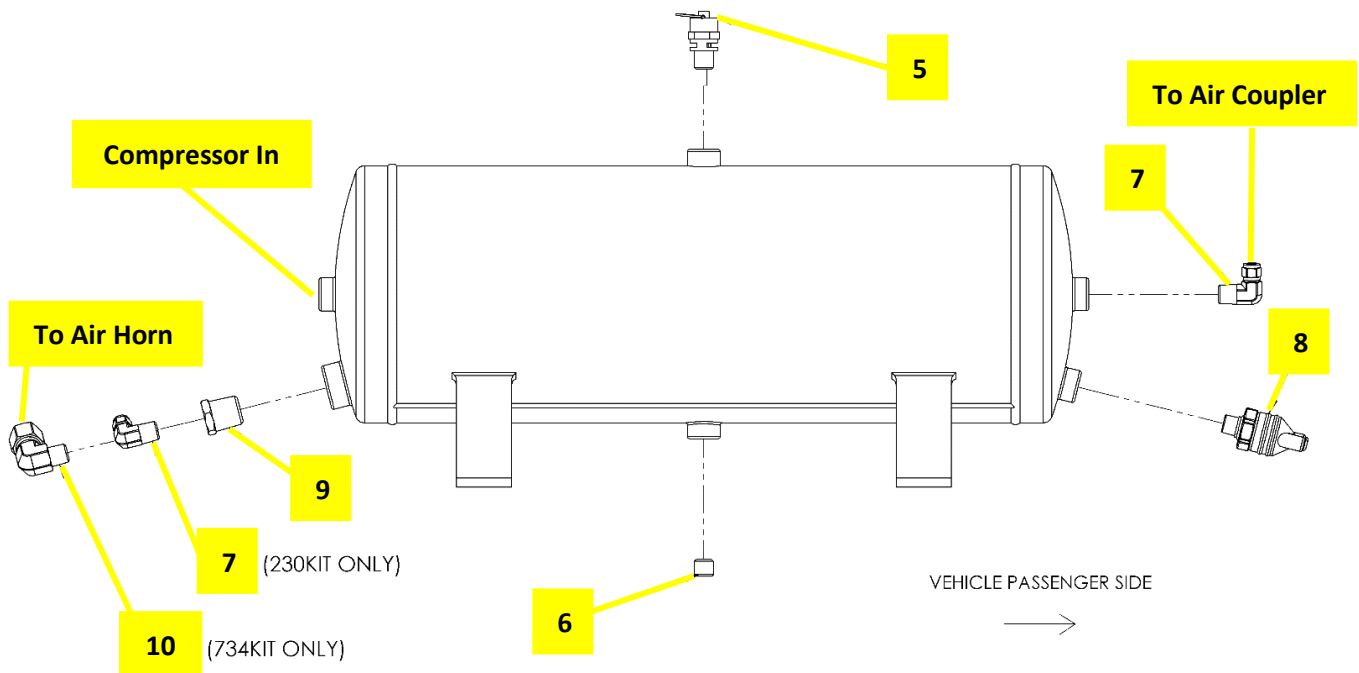
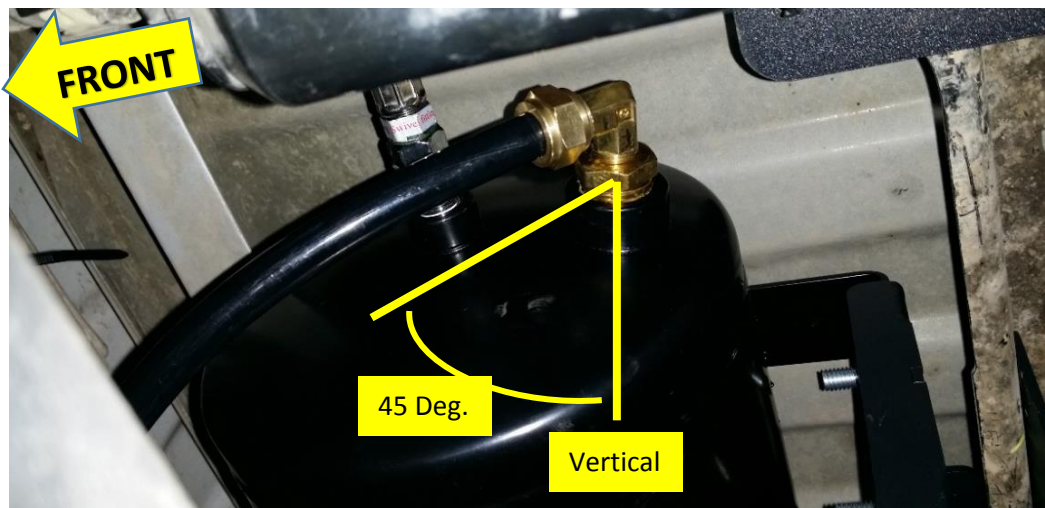

Figure 4 - Tank Air Fittings Exploded (Top View from above Vehicle)
Figure 17 – Air Compressor Leader Hose to Air Tank Connection and Orientation
9.2.3. Ensure outlet fitting for horns is at 45 degree angle towards front of vehicle as shown in Figure 17 below.
- 10.2.7. Route leader hose as shown in Figure 10; it MUST go through opening in Bracket and over Evaporative Canister in order to properly reach Air Tank Port, as shown in Figure 4 above.
10.4.7. Attach leader hose from compressor to Air Tank port, as shown in Figure 4 above. If necessary, readjust outlet fitting for horns to a 45 degree angle towards front of vehicle as shown in Figure 17 below.
- 10.6.2. Use supplied 1/4" tubing and attach to port shown in Figure 4 above.
- 10.7.3. Connect Air Horns to each other and connect inlet line to Air Tank port, as shown in Figure 4 above using supplied semi-rigid plastic Air Tubing. Use supplied zip ties to secure Air Tubing to Brackets.